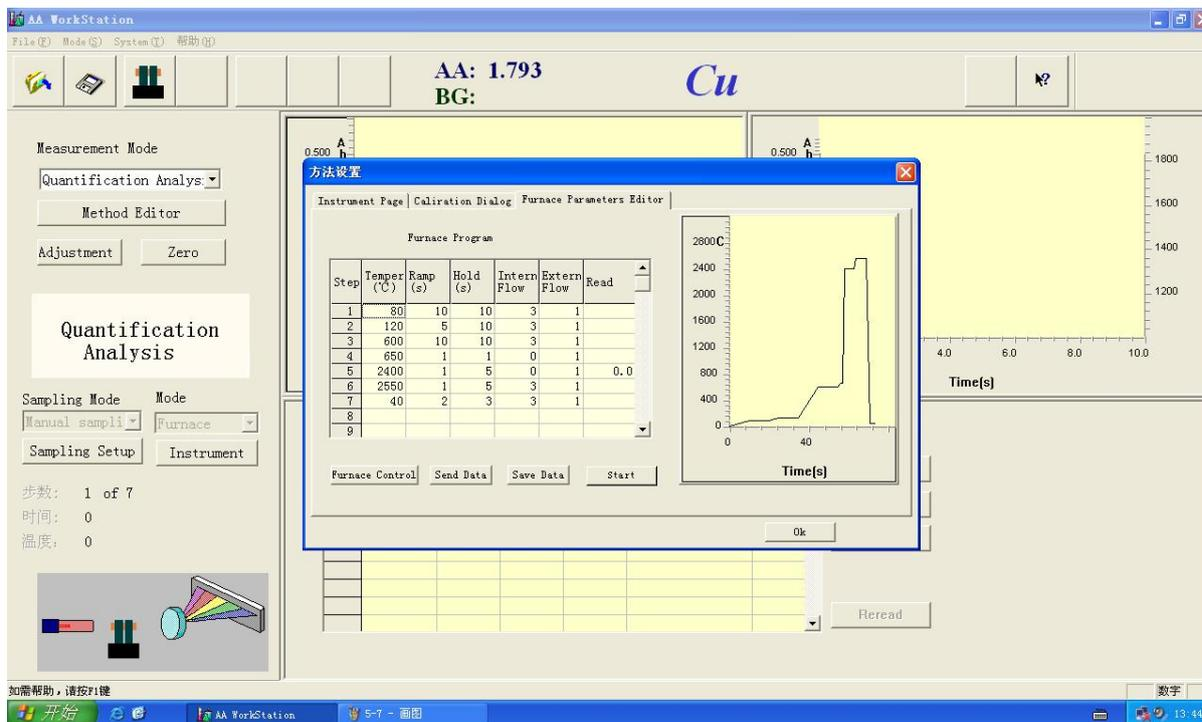

Figure 5-8
10. By analogy, input the corresponding program as shown in figure 5-8 (Note: at most 19 can be input)